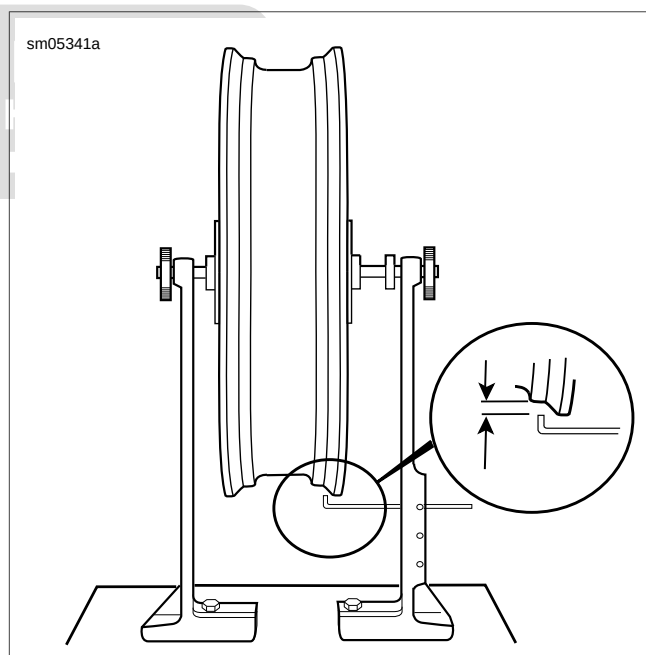

Figure 2-42. Radial Runout
1. See Figure 2-42. Point the gauge rod or indicator at the rim tire bead safety hump.